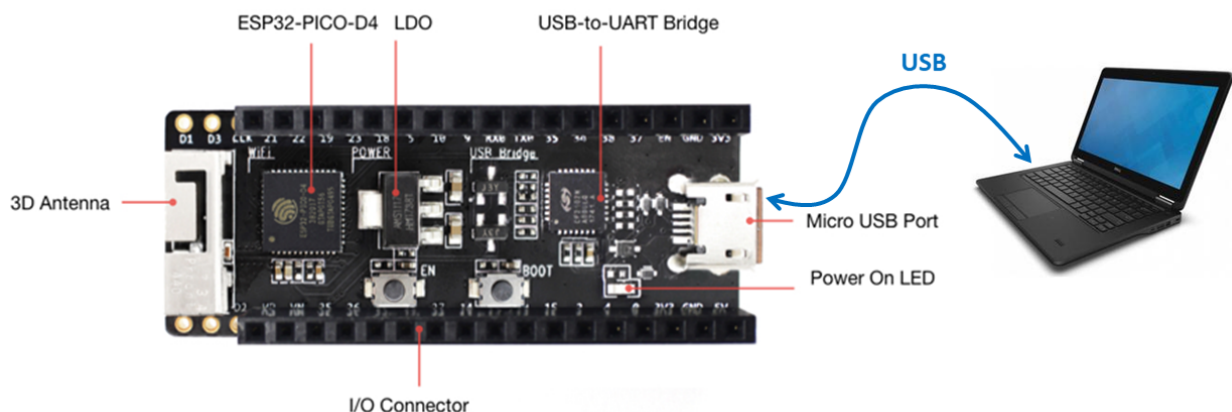

FIGURE 1.1 – *ESP32-PICO-KIT board connections.*
- Connect the ESP32 card to the computer via USB (cf. figure 1.1)